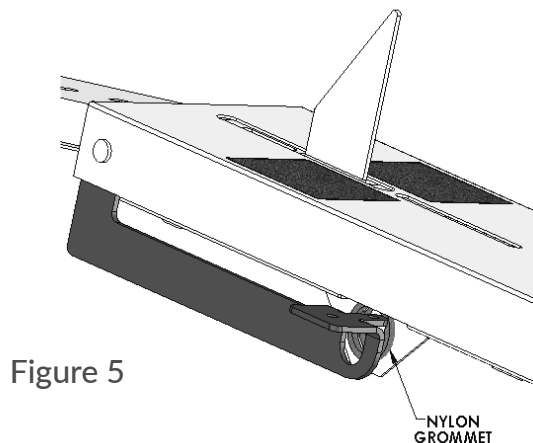

Figure 5
4. Locate two Nylon Grommets and insert them into the large holes in the Channel. Slide assembled Channel Support over Wheels on Rear bow and rest with Stop bracket through slot. Align small tab on arm inside grommets in Channel. (See Figure 5)